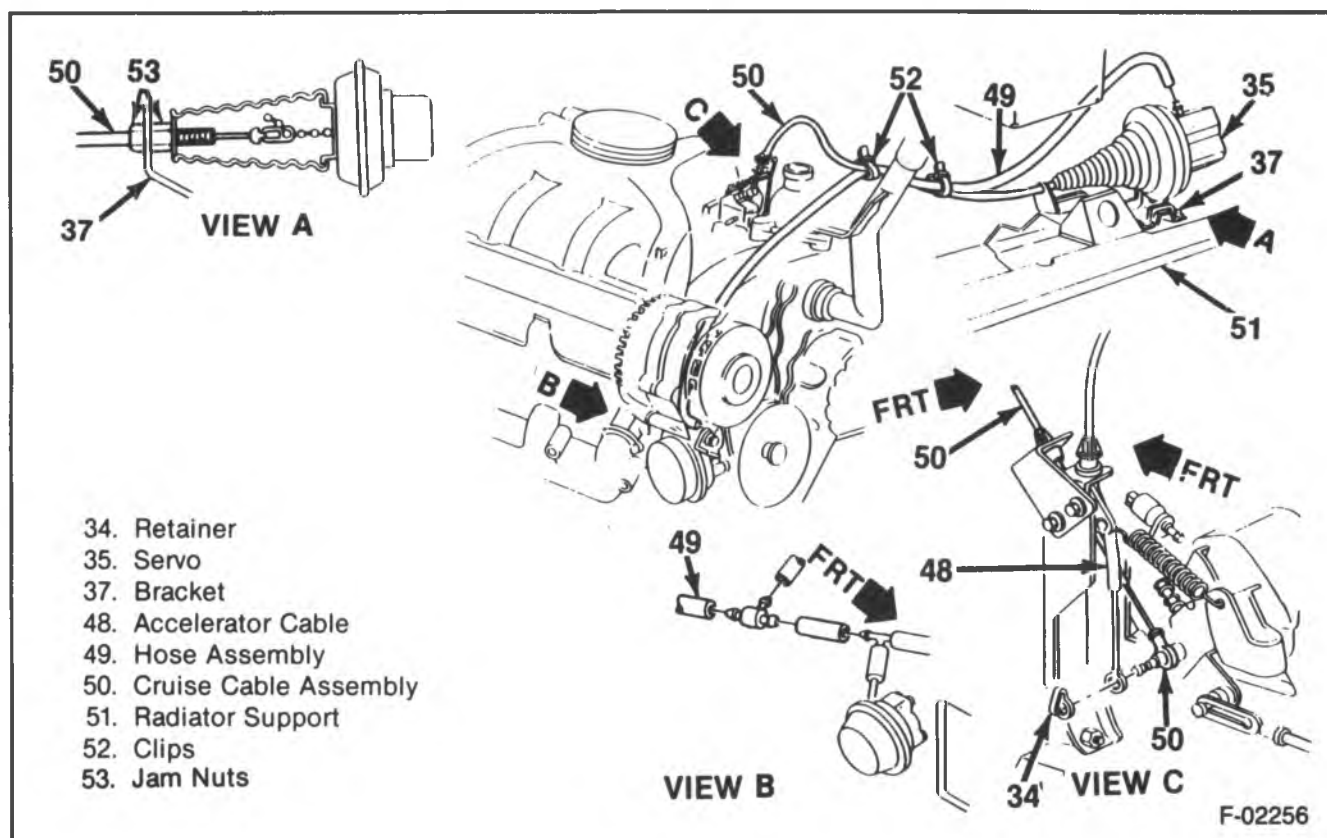
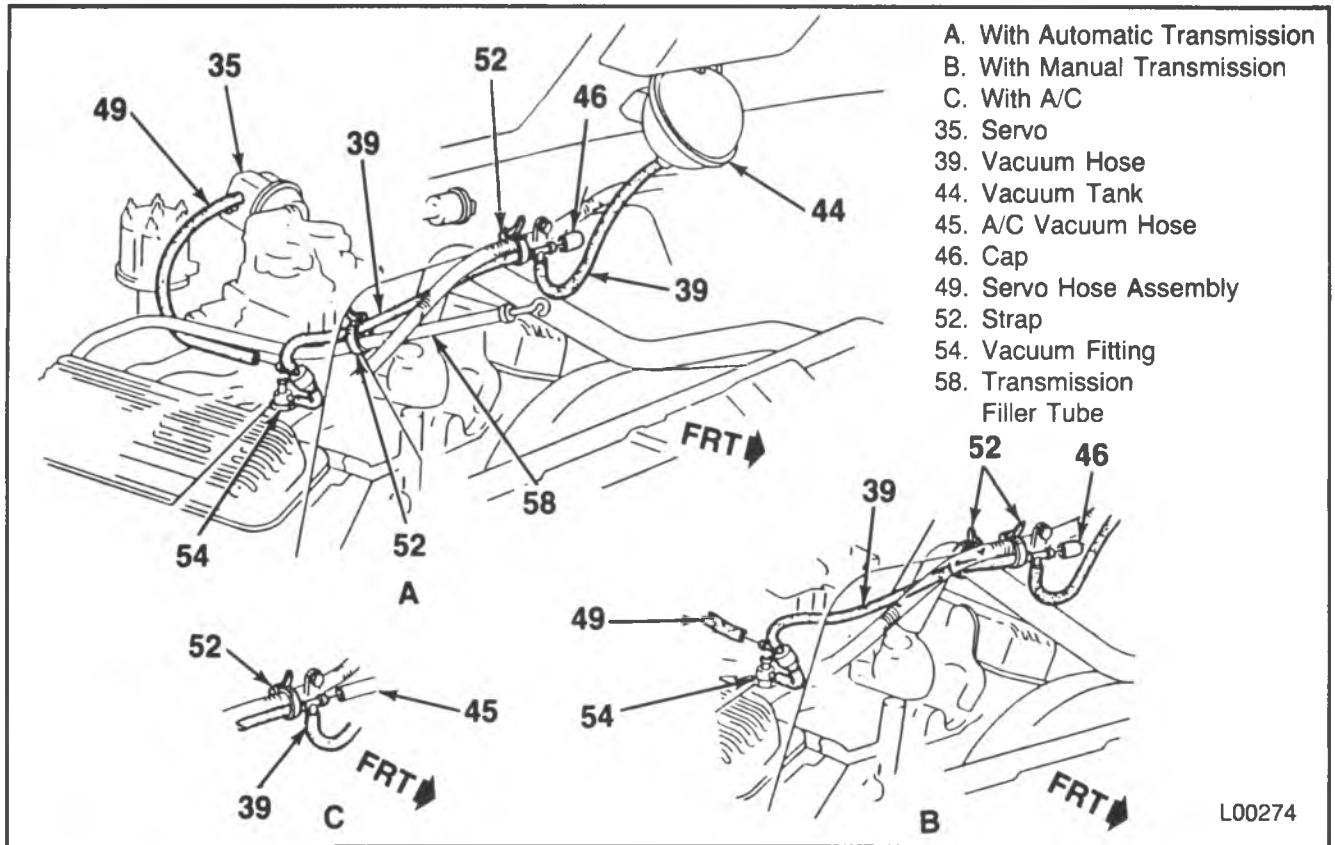

Figure 15 — Servo Mounting (G-Van 6.2L)
Figure 16 — Vacuum Hose Routing (G-Van 4.3L)
1. Vacuum hoses (39) and hose assembly (49). Refer to Figures 16 through 18 for hose routings.
2. Retainer (34).
3. Rod (33).
4. Cruise cable assembly (50) (figure 15).
5. Bolts (36) and servo (35).
- Cruise cable assembly (50) to the third ball on the servo chain (figure 15).
- Jam nut (53) until the cable sleeve at the throttle lever is tight but not holding the throttle open (figure 15).
5. Retainer (34).
6. Vacuum hoses (39) and hose assembly (49). Refer to figures 16 through 18 for hose routings.